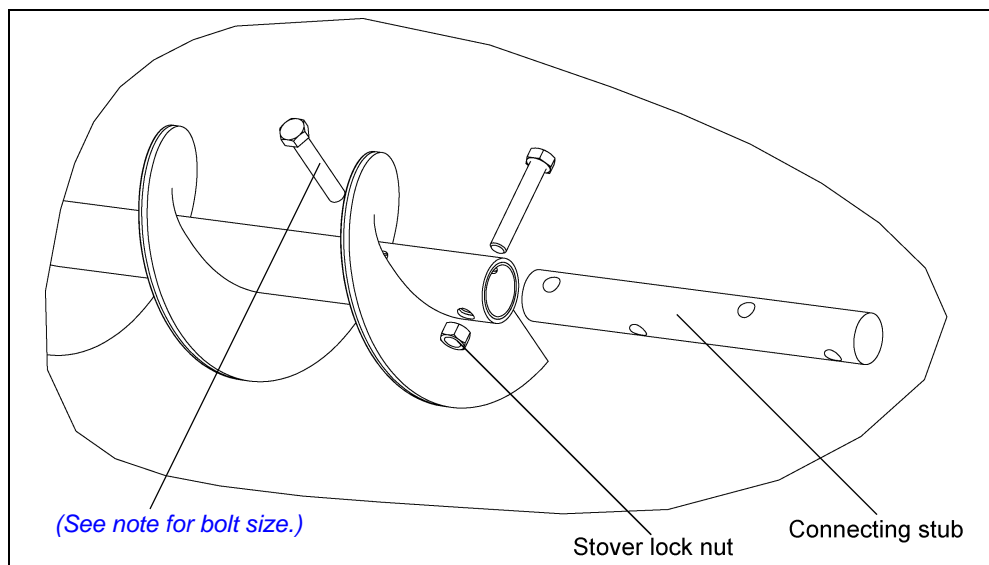

Figure 4AC
- a. Insert the connecting stub into the flighting. Secure it with bolts (*see note for bolt size on Page 30*), and stover nuts. (*See Figure 4AC.*)